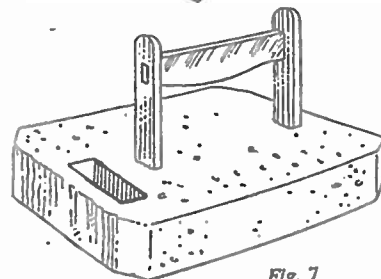

Fig. 7
A useful diagram showing the formation of the metal scraper, and the position of the sinking into which the dog will be cemented, is given in Fig. 7. (371)